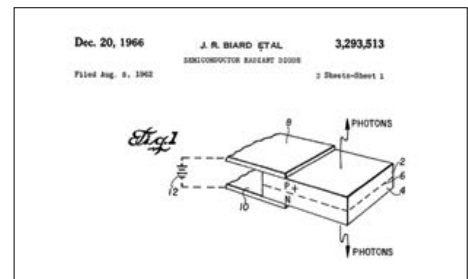

Figure 1. Sketch from the patent for the first LED, described as a "semiconductor radiant diode".
Microwave radio sources were first developed in the 1920's. Once it became apparent that coaxial cable had excessive power losses, researchers started to look for better transmission methods and materials. Round hollow tubes were promising as waveguides but it turned out that it was easier to model the propagation mode and cutoff frequency for rectangular waveguide instead. One of the first real applications for these new waveguides was in World War II radar systems as the "plumbing" between the klystron and the antenna. Waveguide is still available today except that it is usually manufactured as a standardized generic piece with large flanges that are used to connect waveguide pieces together like in the circulator in **Figure 1**.
tubes in amplification stages and reliable processes for industrial semiconductor fabrication were developed. R&D efforts were strongly focused on investigating a wide variety of properties of diverse semiconductor materials. The first working LED, which was made from gallium arsenide and emitted infrared (IR) light, was developed in 1955 by Rubin Braunstein at RCA. Progress was rapid in the 1960s: James Baird applied for a patent [1] on the IR LED (see **Figure 1**), and Texas Instruments started series production a short while later in 1962. The world's first commercial LED was housed in a TO18-type metal package with a lens, operated at a current of 100 mA, and